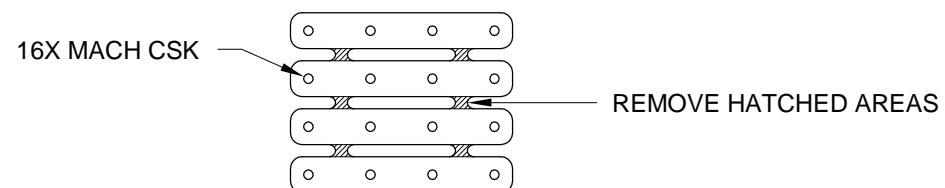

FIGURE 2: MACHINE COUNTERSINKING AND SEPARATING THE F-01437A
Step 5: Machine countersink one side of the F-01437A for AN426AD3 rivets as indicated in Figure 2.
Step 6: Separate the F-01437A into four individual parts by removing the hatched areas shown in Figure 2.